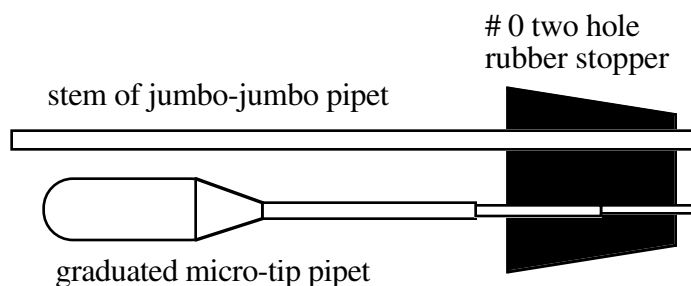

Figure 4 The top of the reaction vessel.
4. Obtain a # 0 two hole rubber stopper. Push the stem of the 15 mL transfer pipet through one hole and a graduated micro-tip pipet through the other hole (*Figure 4*).